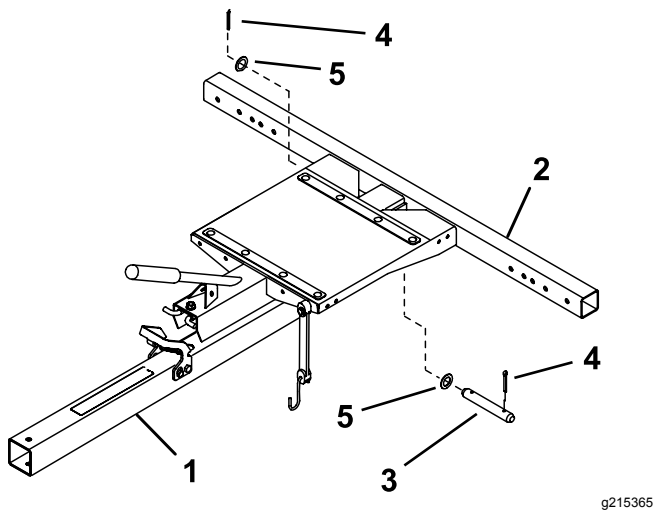

Figure 1
1. Insert the tongue assembly into the frame assembly while aligning the rear mounting holes (Figure 1).
2. Secure the tongue assembly into the frame assembly with a clevis pin, 2 washers and 2 cotter pins (Figure 1).